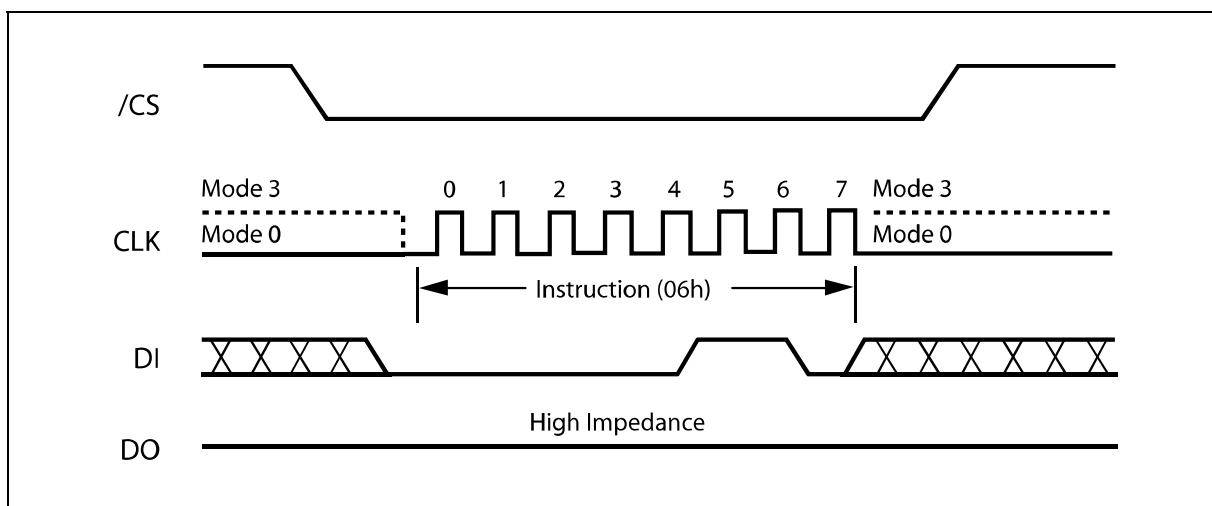

Figure 4. Write Enable Instruction Sequence Diagram
Instructions vary in length from a single byte to several bytes and may be followed by address bytes, data bytes, dummy bytes (don't care), and in some cases, a combination. Instructions are completed with the rising edge of edge /CS. Clock relative timing diagrams for each instruction are included in figures 4 through 29. All read instructions can be completed after any clocked bit. However, all instructions that Write, Program or Erase must complete on a byte boundary (/CS driven high after a full 8-bits have been clocked) otherwise the instruction will be terminated. This feature further protects the device from inadvertent writes. Additionally, while the memory is being programmed or erased, or when the Status Register is being written, all instructions except for Read Status Register will be ignored until the program or erase cycle has completed.
The Write Enable instruction (Figure 4) sets the Write Enable Latch (WEL) bit in the Status Register to a 1. The WEL bit must be set prior to every Page Program, Sector Erase, Block Erase, Chip Erase and Write Status Register instruction. The Write Enable instruction is entered by driving /CS low, shifting the instruction code "06h" into the Data Input (DI) pin on the rising edge of CLK, and then driving /CS high.